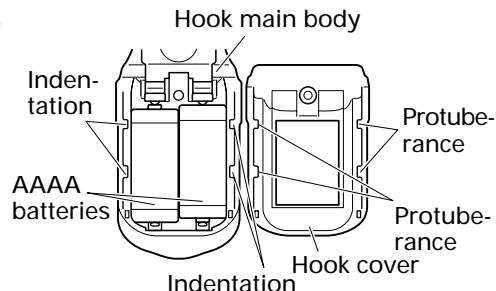

Fig. 13
- (2) Remove the old batteries and insert the new batteries. Align with the hook indications and position the plus (+) and minus (-) terminals correctly (Fig. 13).